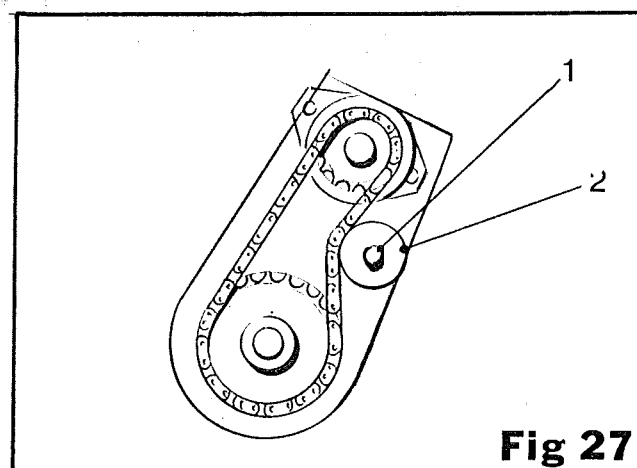

Fig 27
The discharge elevator and picking table are driven by a hydraulic motor, two sprockets and a drive chain. The chain can be adjusted for tension by loosening the retaining bolt (item 1, fig 27) and sliding the roller (item 2, fig 27) to the required position.